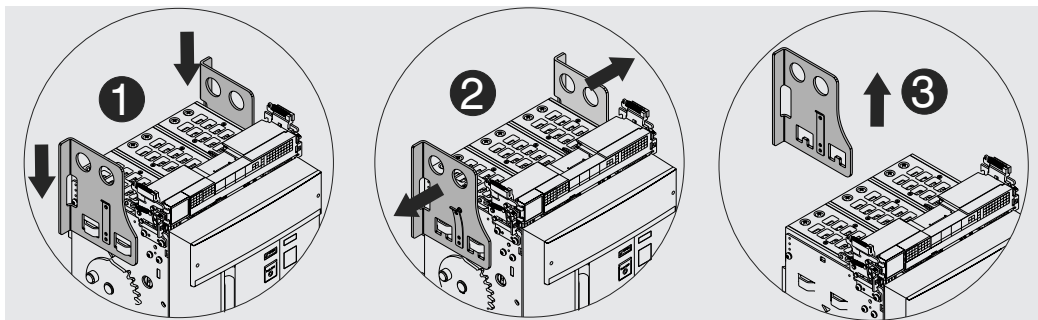

Figure 41
- 5. Unlatch the tongue and remove the lifting plates from the moving part. See Figure 41.